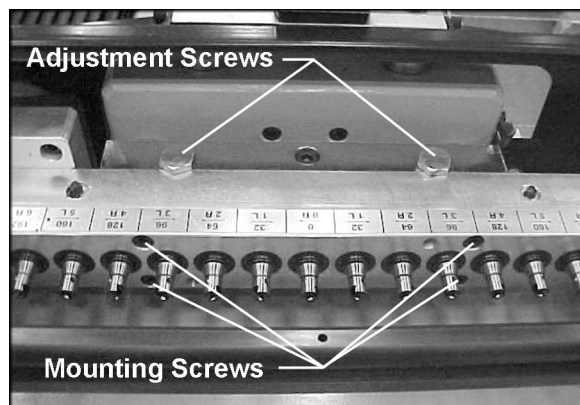

Figure 28
9. Use the gauge block and feeler gauge to check the height of the end spindles, in the same manner as you did the center spindle. Both end spindles should match the height of the center spindle. If they do not, loosen the four mounting screws as shown in Figure 28. Turn the large adjustment screws (Figure 28) slightly until the spindle heights match.